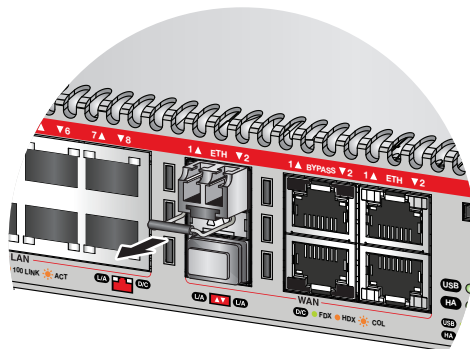

Figure 21. Positioning the SFP handle in the upright position
6. Verify the position of the handle on the SFP transceiver. If the transceiver is in a top slot, the handle should be in the upright position, as shown in Figure 21. If the transceiver is in a bottom slot, the handle should be in the down position. This secures the transceiver and prevents it from being dislodged from the slot.